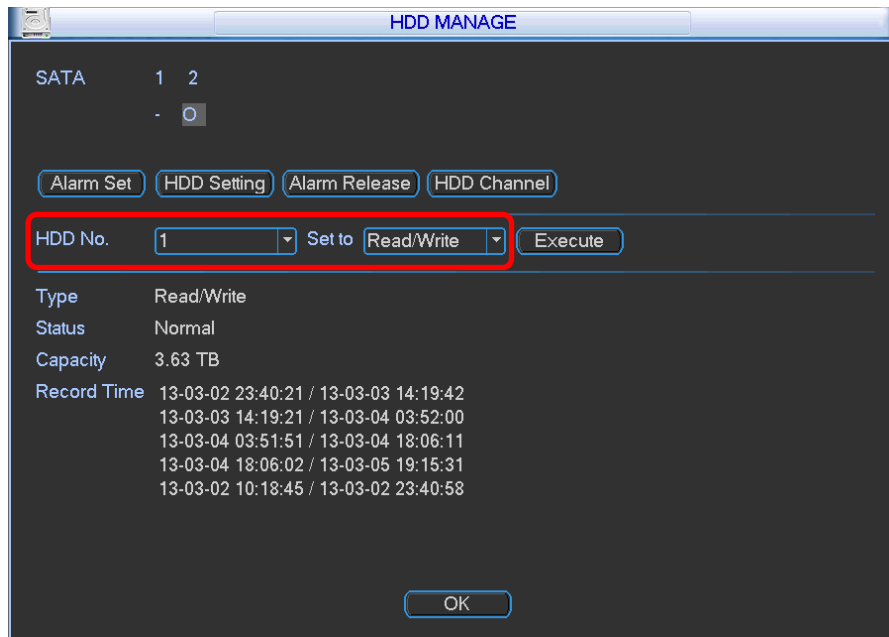

Figure 3-39
2. In the Advanced menu, click the HDD Manage icon to open the HDD Manage screen. See Figure 3-39.
- Set the redundant disc(s) as read-only or read-write (*Main Menu > Advanced > HDD Manage*). See Figure 3-39. You must reboot the NVR to activate the new setup.